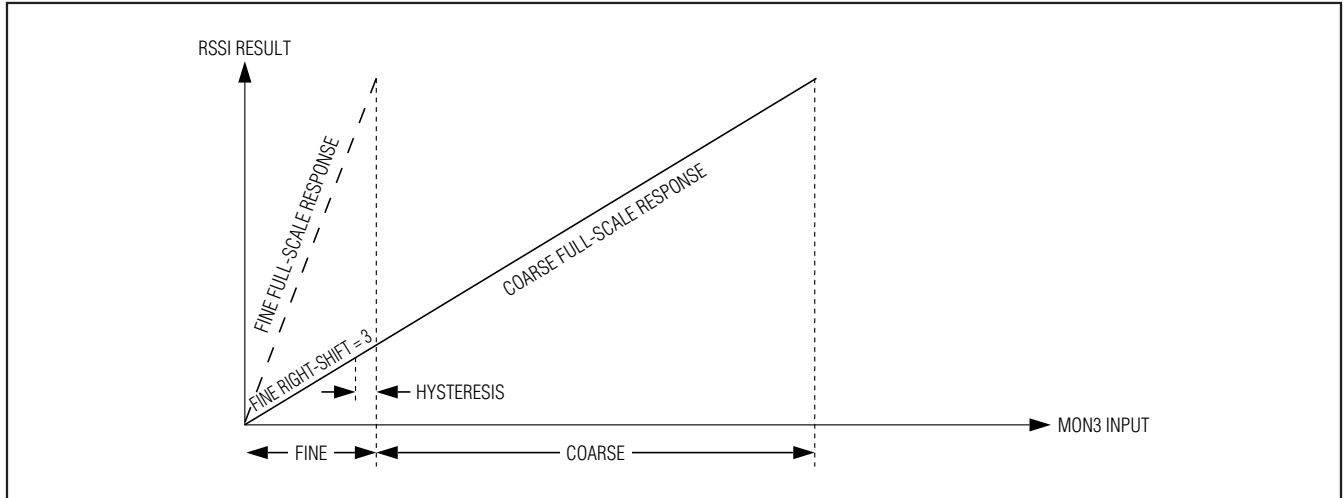

Figure 9. RSSI with Crossover Disabled
- Crossover Disabled:** The crossover disabled mode is intended for systems with a linear relationship between the MON3 input and desired ADC result. The ADC result transitions between the fine and coarse ranges with hysteresis (Figure 9). In crossover disabled mode, the thresholds between coarse and fine mode are a function of the number of right-shifts being used. With the use of right-shifting, the fine-mode full scale is programmed to $(1/2^{nth})$ of the coarse-mode full scale. The device now auto ranges to choose the range that gives the best resolution for the measurement. Table 4 shows the threshold values for each possible number of right-shifts.